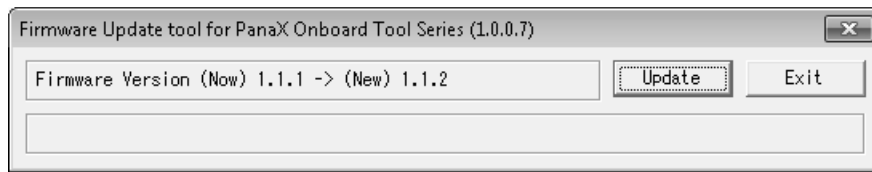

Figure 2.4.4 Startup Window of Firmware Update Tool
3. The dialog shown in Figure 2.4.4 appears. Click <Update>. Click <Exit> to exit the update tool without updating the firmware.